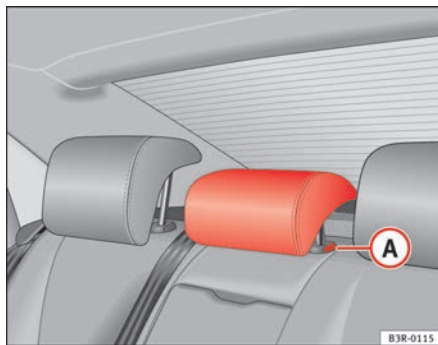

Fig. 112 Centre rear seat:
- Press button **A** ⇒ fig. 112 and lower the head restraint.
- Press button **A** ⇒ fig. 112 and pull out the head restraint.